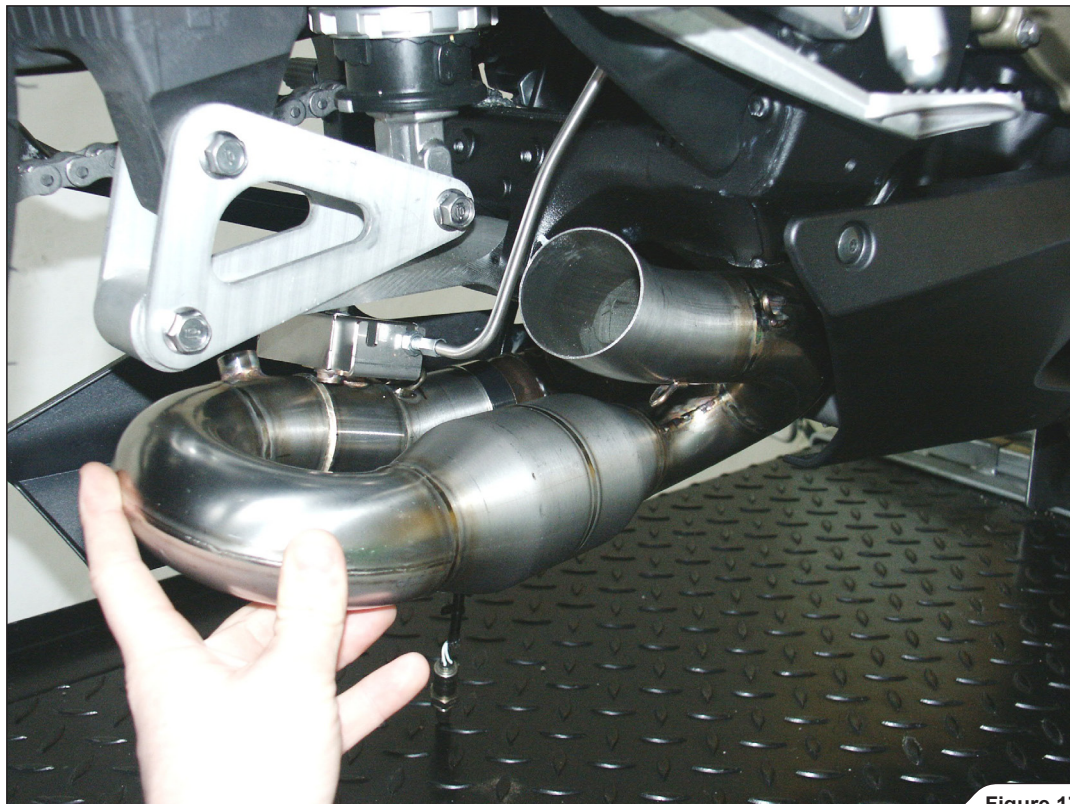

Figure 17
6. Slide the link pipe onto the stock collector (Figure 17).